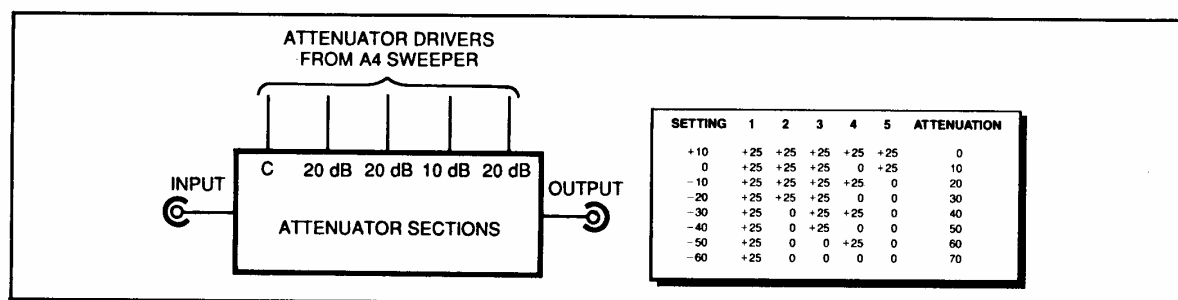

Figure 8-63. Attenuator Option
- e. Attenuator. If fitted, this option provides up to 70 dB of attenuation for the RF output. The drive current for the attenuator is supplied by a cable from the A4 sweep PCB. A simplified attenuator diagram is shown in Figure 8-63.